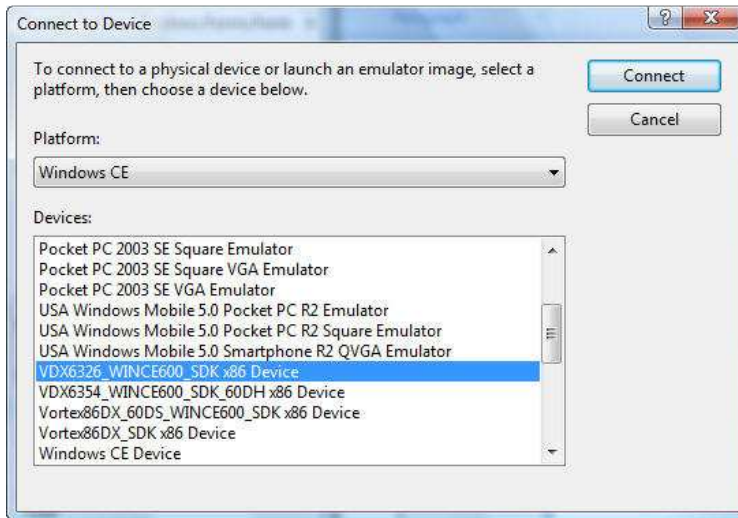

Fig. 43 - Connect to Device (SBC)
- From VS2005 IDE, select **Tools | Connect to device...** and select **VDX6326_WINCE600_SDK** from the list of available devices, and click on the **Connect** button, as shown in Figure 43.